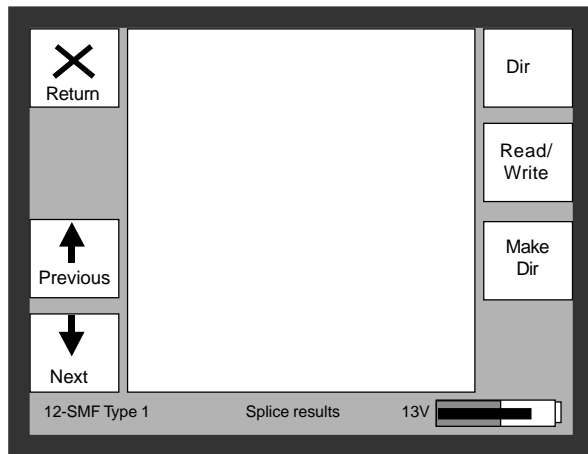

Fig. 84 - Monitor display after pressing RUN
- The monitor changes as illustrated in fig. 84. At this point the window is empty and the user can choose to save the splice program either: